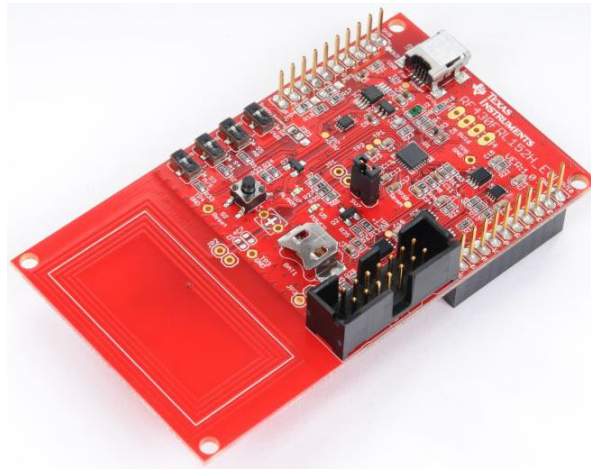

Figure 1. RF430FRL152HEVM
- RF430FRL152HEVM (see Figure 1)
Figure 1 shows an RF430FRL152HEVM.